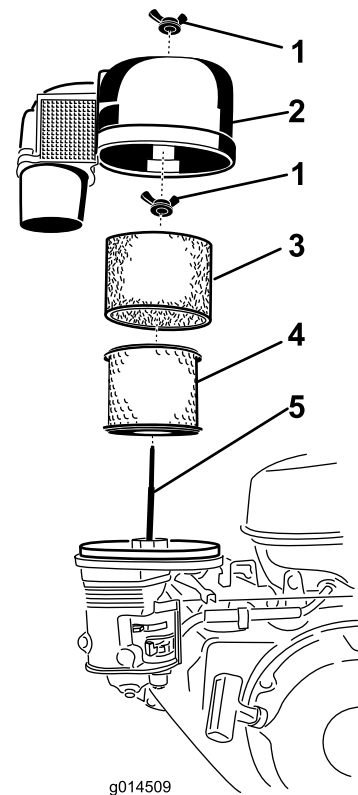

Figure 11
1. Remove the wing nut and lift off the cyclone filter with the air filter cowl (Figure 11).